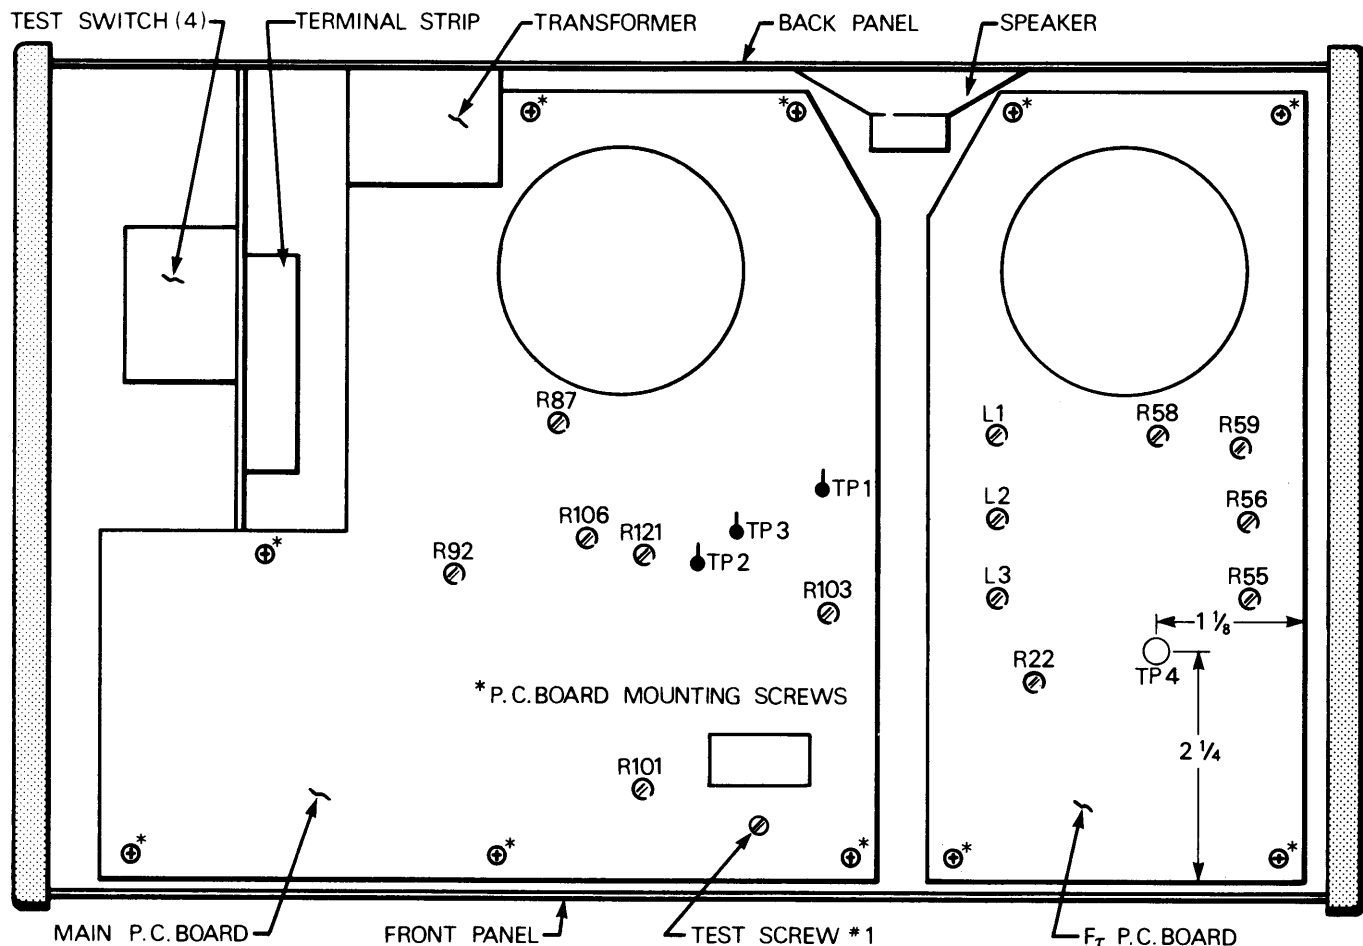
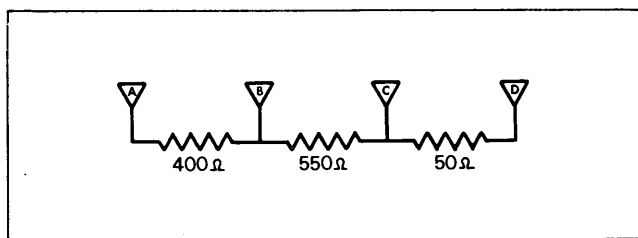
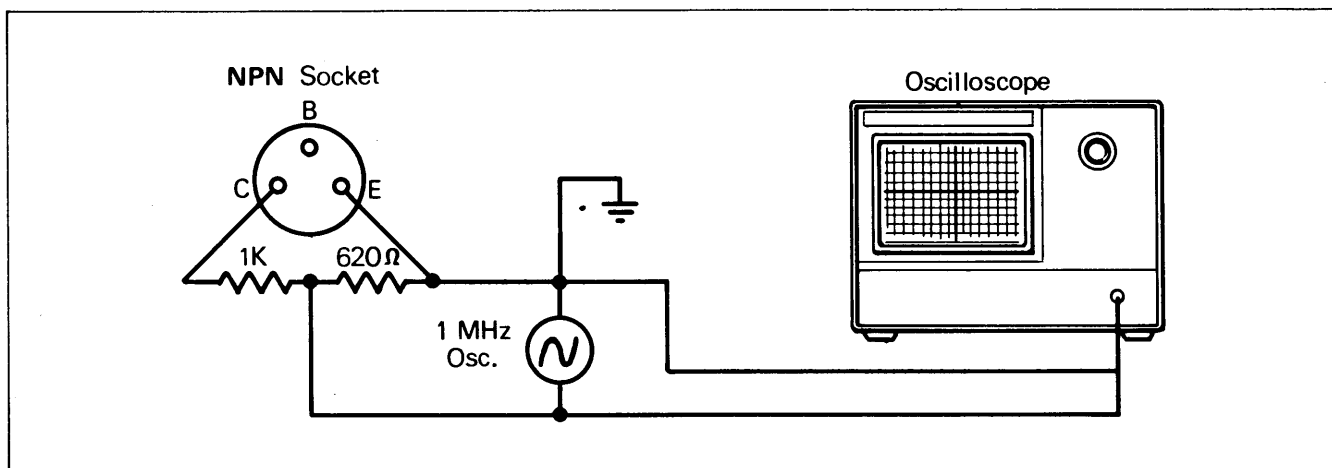

Fig. 8. Bottom view of Model 530, with bottom panel removed.
Fig. 9. Resistive network.
Fig. 14. Field calibration, f_r circuit.
1. Turn the Model 530 power off. If LEAKAGE/GAIN meter (19) does not indicate zero, insert a suitable screwdriver in the hole just below the meter and adjust it to indicate zero on top scale.
2. Turn the Model 530 power on, if the LEAKAGE/GAIN meter (19) indicates zero on top scale, proceed to step #4. If the LEAKAGE/GAIN meter (19) does not indicate zero, turn the 530 power off, unplug the unit and remove the 530 bottom panel by removing the five screws (three on bottom panel and two on back panel).
3. Plug in the unit and turn power on. Adjust the zero control trimpot R-87 with suitable screwdriver so that meter is at zero. Refer to Fig. 8 for trimpot location.
4. With power on, set the HI PWR/LO PWR switch (10) to "LO PWR" position. Turn TRANSISTOR BETA/FET g_m switch (9) to "TRANSISTOR BETA" position. LEAKAGE/GAIN meter (19) should read zero on top scale; if not, remove bottom panel of the 530 and adjust zero β CAL
trimpot R-106 with suitable screwdriver (while holding the TRANSISTOR BETA/FET g_m switch (9) in "TRANSISTOR BETA" position) so that the LEAKAGE/GAIN meter (19) reads zero on top scale. Refer to Fig. 8 for trimpot location.
1. LEAKAGE/GAIN meter (19) should be zero calibrated as per section "A" above.
3. Set Test switch (4) to the top-most position. Set NPN/PNP switch (12) to "NPN/P-CH" position.
4. Connect a 5.1 K Ω resistor in series with a DC milliamp meter, to the blue and yellow test lead sockets (6) of the 530. (Blue socket should be connected to the positive lead of the external meter).
5. Press Model 530 PUSH-TO-TEST switch (13) and adjust front panel LEAKAGE VOLTS control (14) so that the external meter reads 0.9 milliamp DC.
- The Model 530 LEAKAGE/GAIN meter (19) should read $900\ \mu\text{A}$ on top scale. If meter does not read $900\ \mu\text{A}$, unplug the 530 and remove the bottom panel.
- Plug the 530 into the power source and repeat step #5. With suitable screwdriver, adjust trimpot R-103 so that LEAKAGE/GAIN meter (19) reads $900\ \mu\text{A}$ on top scale. Refer to Fig. 8 for trimpot location.
- Build yourself a simple resistive network as shown in Fig. 9 (either by fixed resistors or by adjusting trimpots).
- Remove the small grounding TEST screw #1 and washer from back of the main P.C. board (at the corner next to the pushbutton switch). Refer to Fig. 8. Connect a lead between point "A" of the resistive network (Fig. 9) and main P.C. board test point 2 (TP-2); also connect a lead between point "D" (Fig. 9) and main P.C. board test point 3 (TP-3). Refer to Fig. 8.
- Set HI PWR/LO PWR switch (10), of the Model 530, to the "LO PWR" position. Set NPN/PNP switch (12) to the "NPN/N-CH" position. Lever Test switch (4) should be in the top-most position. Connect the blue test lead, which should be plugged into the blue test lead socket (6), to point "C" of resistive network (Fig. 9).
- Plug the Model 530 into the power source and turn power switch (11) on. Turn TRANSISTOR BETA/FET g_m switch (9) to "TRANSISTOR BETA" position. LEAKAGE/GAIN meter (19) should read "50" on LO β scale. If not, adjust main P.C. board trimpot R-121 with suitable screwdriver (while holding the TRANSISTOR BETA/FET g_m switch (9) in "TRANSISTOR BETA" position), so that the meter reads "50" on LO β scale. Refer to Fig. 8.
- Connect the blue test lead to point "B" of the resistive network (Fig. 9). Turn the TRANSISTOR BETA/FET g_m switch (9) to "TRANSISTOR BETA" position. The LEAKAGE/GAIN meter
(19) should read full scale. If not, adjust main P.C. board trimpot R-101 with suitable screwdriver so that LEAKAGE/GAIN meter reads full scale. Refer to Fig. 8. Unplug the Model 530 from power and disconnect all leads. Replace test screw #1 and washer to its original position. Refer to Fig. 8.
- LEAKAGE/GAIN meter (19) should be zero calibration as per section "A".
- Turn power switch (11) on and the DRIVE switch (10) to "LO" position. Connect the three test leads to a power transistor (any power transistor TO-3 package will do). Move Test Switch (4) through its positions until the unit indicates "GOOD" device (NPN/N-CH or PNP/P-CH lamp will light), and leave lever Test Switch (4) in that position.
- Set NPN/PNP switch (12) to either "NPN/N-CH" or "PNP/P-CH" position, as indicated by the "GOOD" LED polarity. Set HI PWR/LO PWR switch (10) to its "HI PWR" position.
1. Turn Model 530 off. If f_r OUT-OF-CIRCUIT meter (18) does not indicate zero, insert a suitable screwdriver in the hole just below the meter and adjust it to indicate zero on the top scale.
3. Turn Model 530 power on. Without any transistors plugged into f_r sockets (15) or (16), check for f_r meter (18) reading of zero for each range selected on the RANGE, MHz Switch (17). If the f_r meter (18) does not read zero, adjust R-55 to obtain a zero reading (Fig. 8).
- (d) Adjust R-22 for a collector current of 10 milliamperes (See Fig. 8 for location of R-22).
- (b) Insert NPN transistor into front panel socket labeled NPN (16). All frequency measurements are taken at TP-4. See Fig. 8 for location of TP-4 and oscillator coils.
- (a) Connect two resistors in series and connect to Model 530 NPN Transistor Socket (16) as shown in Fig. 14. Turn power on. (See Fig. 8 for location of R-56, R-59 and R-58).
- (b) Set Range Switch (17) to 0-100.
- (d) Adjust R-56 for a reading of 60 on the top scale of the f_r meter (18).
- (e) Set Range Switch (17) to 0-500.
- (g) Adjust R-59 for a reading of 60 on the top scale of the f_r meter (18).
- (h) Set Range Switch (17) to 0-1500.